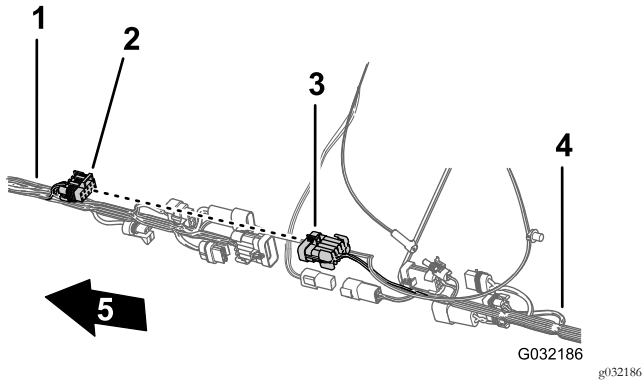

Figure 115
2. Connect the 10-socket connector of the front harness for the sprayer-harness interconnect into the 10-pin connector of the rear harness for the sprayer-harness interconnect (Figure 115).